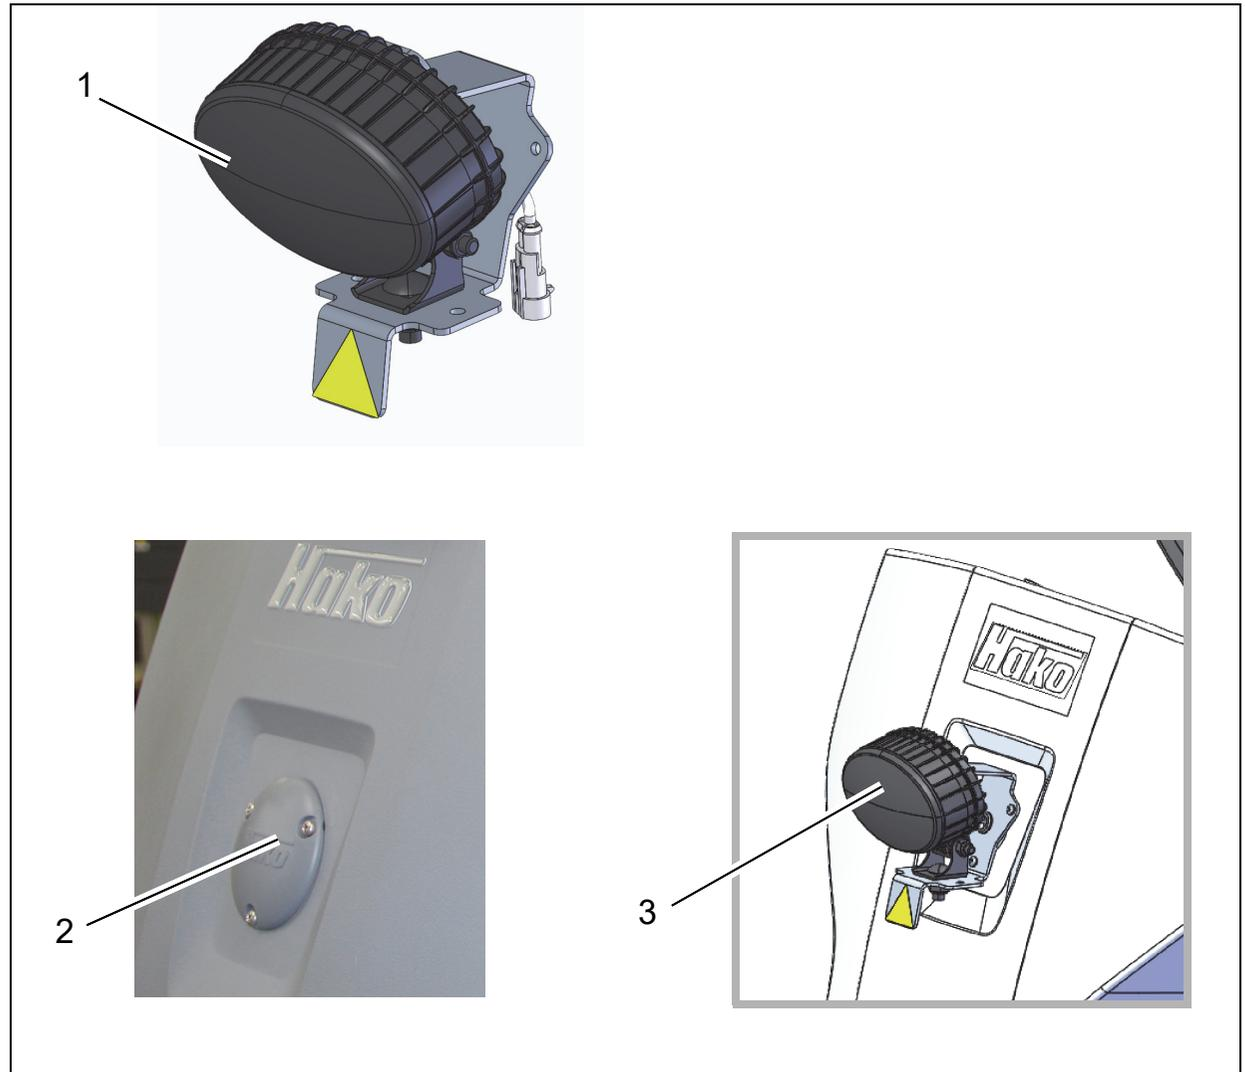

Fig. 1
1x BlueSpot, pre-assembled (Fig. 1/1)
1. Remove the cover (Fig. 1/2) on the steering column (bolts and seal will be reused).
3. Fix the pre-assembled BlueSpot to the steering column using the existing seal and the EJOT bolts and tighten to a tightening torque of 1.1 Nm (Fig. 1/3).